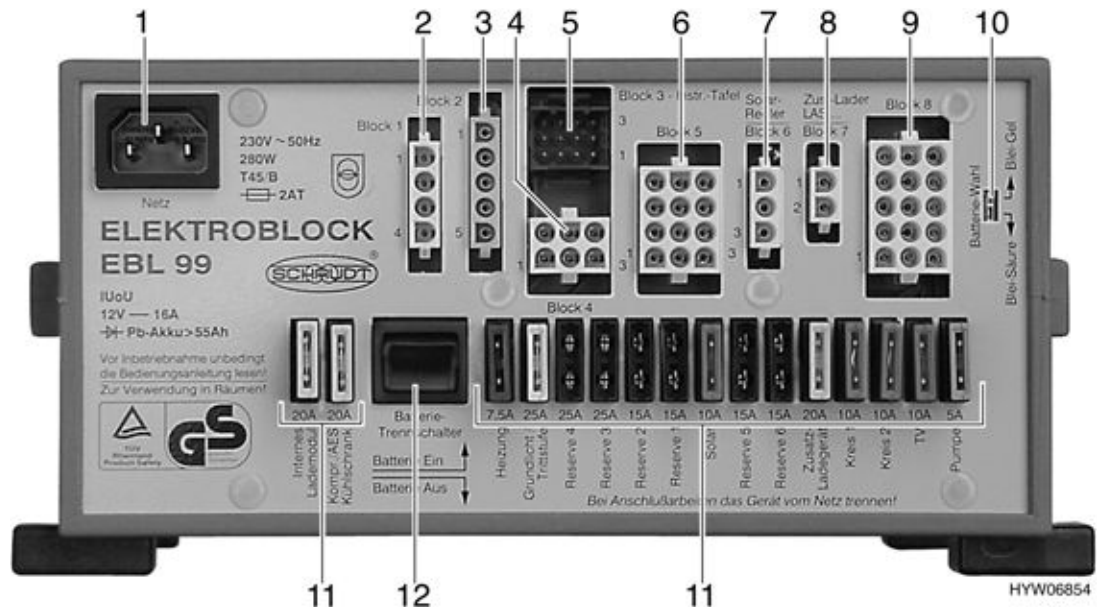
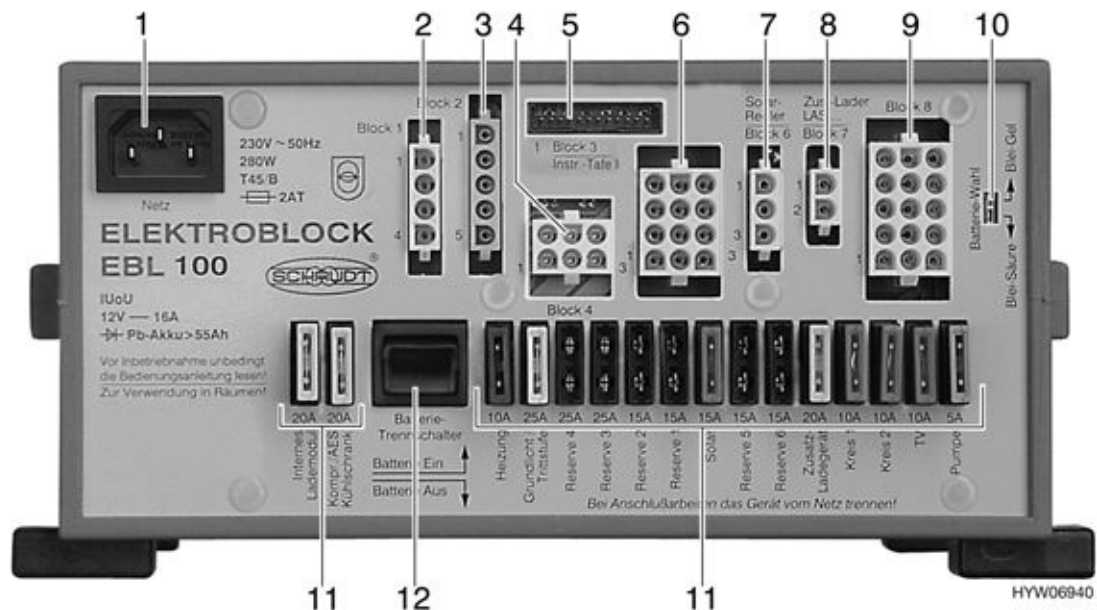
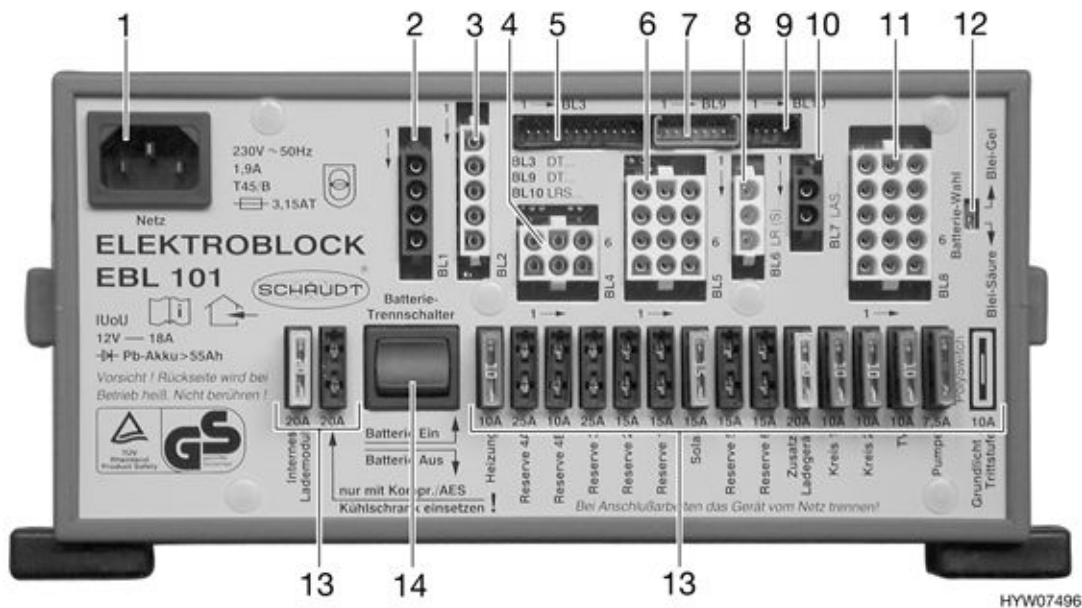

Fig. 107 Transformer/rectifier EBL 99 (variant 1)
Fig. 108 Transformer/rectifier EBL 100 (variant 2)
Fig. 109 Transformer/rectifier EBL 101 (variant 3)
The battery cut-off switch (Fig. 107,12, Fig. 108,12 or Fig. 109,14) disconnects all the living area 12 V appliances, even the safety/drainage valve. This prevents the living area battery from slowly discharging if the motorhome is not used for a longer period of time (e. g. temporary lay-up).
- The factory settings of the battery selector switch (Fig. 107,10, Fig. 108,10 or Fig. 109,12) ("dryfill") must not be changed.